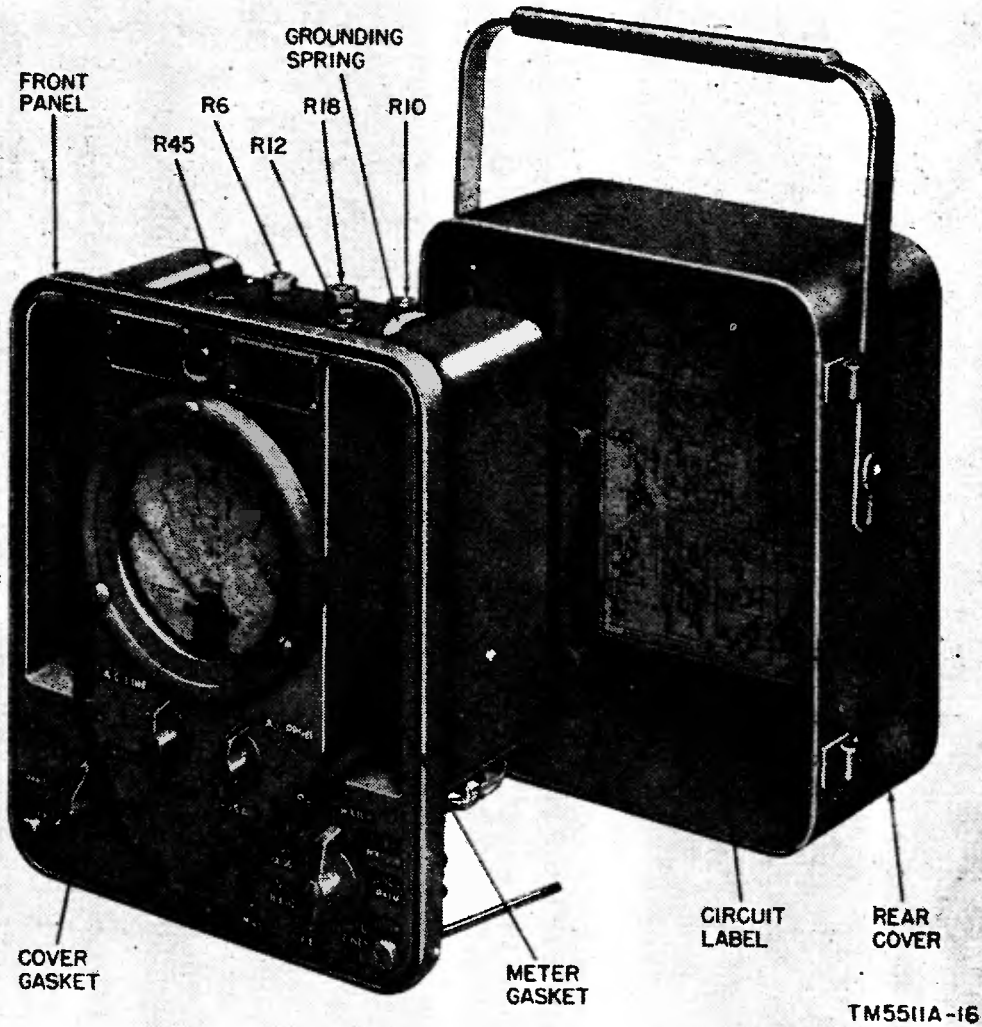

Figure 16. Multimeter, removed from case.
- (1) Before a part is unsoldered, note the position of the leads. If the part, such as a wafer switch or power transformer, has a number of connections, tag each lead before removing it.
- (2) Be careful not to damage other leads by pushing or pulling them out of the way.
- (3) Do not use a large soldering iron when soldering small resistors or ceramic capacitors. Overheating of small parts may damage the part or change its value.
- (4) Do not allow drops of solder to fall into parts of the chassis because they may cause short circuits.
- (5) A carelessly soldered connection may create new faults. It is very important to make well-soldered joints because a poorly soldered joint is one of the most difficult faults to find.
- (6) When a part is replaced in a high-frequency circuit, it must be placed exactly in the position occupied by the original part. A part which has the same electrical value but different physical size may cause trouble in high-frequency circuits. The multimeter contains a number of precision resistors which must be replaced by identical replacement parts. Give particular attention to proper grounding when replacing a part; use the same ground as in the original wiring. Failure to observe these precautions may result in improper operation or instability.
- (7) *Do not disturb* the setting of potentiometer R6, R10, R12, R18, or R45 (fig. 16) unless it definitely has been determined that the trouble is caused by misadjustment of one or more of these potentiometers.
- (1) Connect the multimeter AC LINE cord into the ac power source (98–130 volts, 50–1,000 cps). Turn the FUNCTION switch to the +D.C. position and allow the multimeter to warm up for 10 or 15 minutes.
- (2) Turn the ZERO ADJ. control (R15) to its mechanical center. Turn the RANGE switch to the 2.5 V–RX1 position. Connect the dc probe and COMMON probe tips together.
- (3) Loosen the lock nut on potentiometer R18 (fig. 16). Use a screwdriver and turn potentiometer R18 until the meter pointer is within one-half scale division of zero. Wait approximately 1 minute between settings, because the action of this control is sluggish.
- (4) After the adjustment has been made, tighten the lock nut on potentiometer R18. Be careful not to disturb the setting of the meter pointer and the setting of the potentiometer.
- (5) Set the meter pointer at zero by turning the ZERO ADJ. control.
- (6) Turn the FUNCTION switch to the —dc position. The meter pointer should read zero within plus or minus one scale division.
- (7) If the meter pointer has shifted more than plus or minus one scale division from zero, allow the multimeter to operate for several hours; then repeat the instructions in (1) through (6) above. If the shift of the meter pointer is still greater than one scale division from zero, replace tubes V1 and V2. Check the replacement tubes by repeating the instructions in (1) through (6) above.